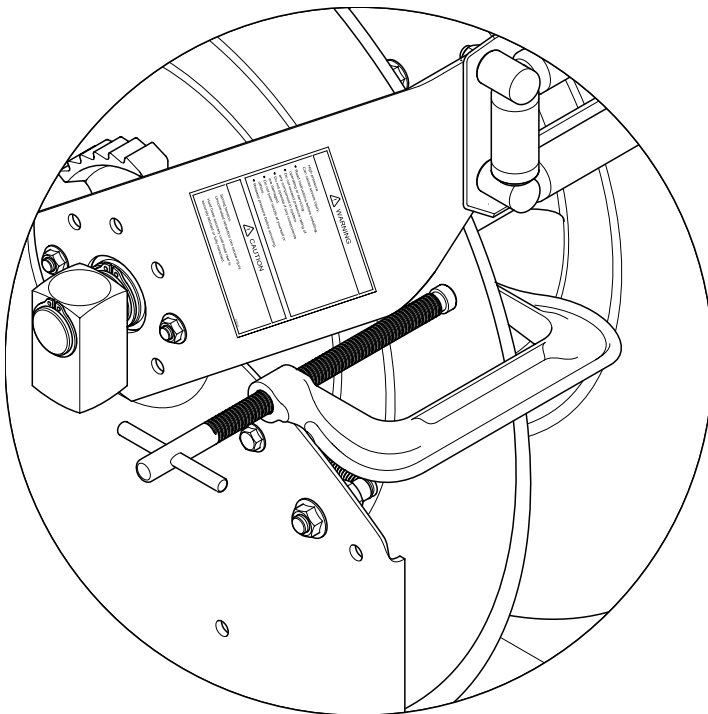

Figure 5 *Clamp Attached to Sheave Assembly*
- install a clamp on the Sheave. See Figure 5.